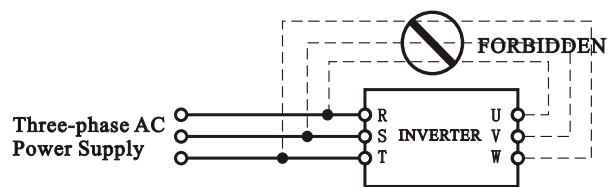

Fig. 1-2
- DO NOT connect AC power supply to the output terminals marked "U", "V" and "W". Otherwise, it may cause damage to the inverter, as shown in Figure 1-2